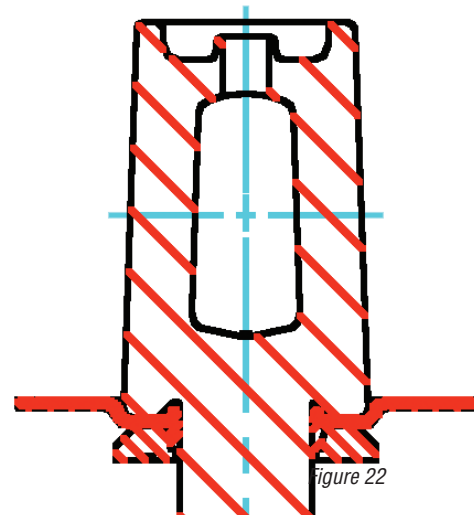

*figure 22*
9. The entire assembly is turned over and the Grafoil gasket (Part 18) placed on the metal diaphragm (Figure 22). A small amount of rubber cement is placed on the Grafoil in several places to cause it to adhere to the metal diaphragm.